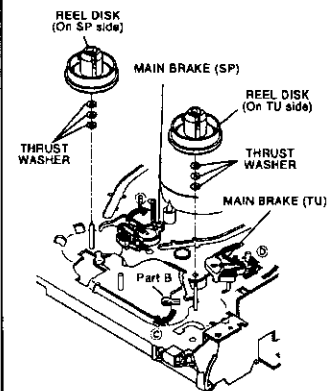

Fig. 2-10-1
- Move the MAIN BRAKE (SP) in the direction shown by arrow (B) hold it in that state. Remove the REEL DISK (On SP side) as shown in Fig. 2-10-1.
- Move the part B in the direction shown by arrow (C) with a minus screw driver as shown in Fig. 2-10-1.
- Move the BRAKE MAIN (TU) in the direction shown by arrow (D) hold it in that state. Remove the REEL DISK (On TU side) as shown in Fig. 2-10-1.
- Install the REEL DISK (On SP side) shown in Fig. 2-10-1.
- Make sure that the REEL DISK (On SP side) shown in Fig. 2-10-1 cannot come off.
- Install the REEL DISK (On TU side) shown in Fig. 2-10-1.
- Make sure that the REEL DISK (On TU side) shown in Fig. 2-10-1 cannot come off.